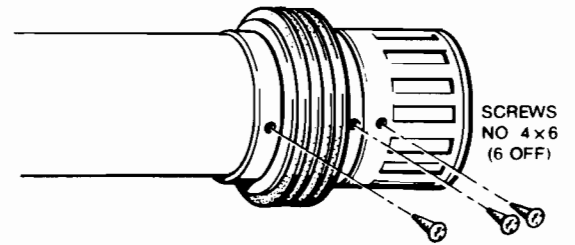

FIG. 21
d) Drill two 2mm dia holes using the pre-drilled holes in the terminal as a guide into the air duct, and secure with the screws provided (see Fig. 21).
e) Slide the duct sealing ring and the two retention rings into position, so that the assembly butts up against the flue terminal. Hold the duct retention ring in this position, and drill two fixing holes 2mm in dia through each ring, using the pre-drilled holes in the retention ring flange, as a guide, secure with the four screws provided (see Fig. 21).